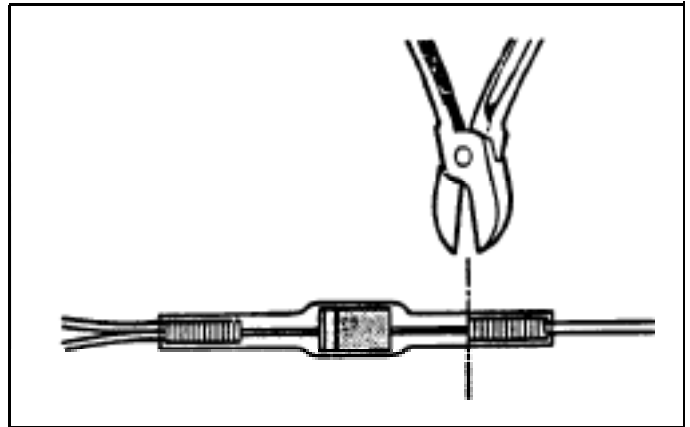

Figure 5. Sever one of the diode's leads at the crimp.
2. Sever one of the diode's leads at the crimp. Remove the insulating sleeve fitted over the crimp, Figure 5.